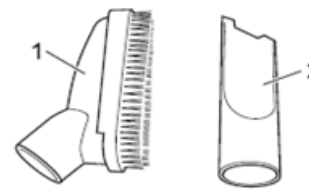

Fig. 6
- **Combi brush (Fig. 6/1)** Use this to remove dust from objects with delicate surfaces and upholstery.
-**Crevice nozzle (Fig. 6/2)** Use this to suck dust out of hard to reach places.